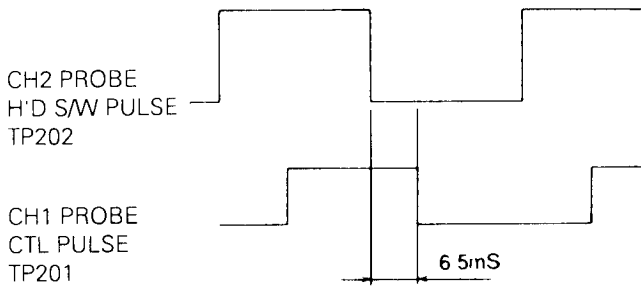

Fig. 7 Tracking Preset Adjustment
4. Set the tracking preset to "6.5 ms" using the tracking button ▲/▼ of remote control. (Refer to Fig. 7 and 8)